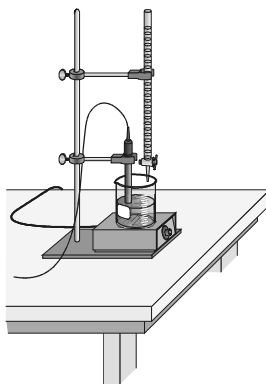

Figure 1
5. Use a utility clamp to suspend a pH Sensor on a ring stand as shown in Figure 1. Position the pH Sensor in the HCl solution and adjust its position so that it is not struck by the stirring bar.
6. Obtain a 50 mL buret and rinse the buret with a few mL of the 0.050 M NaOH solution. **CAUTION:** *Sodium hydroxide solution is caustic. Avoid spilling it on your skin or clothing.* Dispose of the rinse solution as directed by your teacher. Use a utility clamp to attach the buret to the ring stand as shown in Figure 1. Fill the buret a little above the 0.00 mL level of the buret with 0.050 M NaOH solution. Drain a small amount of NaOH solution so it fills the buret tip *and* leaves the NaOH at the 0.00 mL level of the buret. Record the precise concentration of the NaOH solution in your data table.